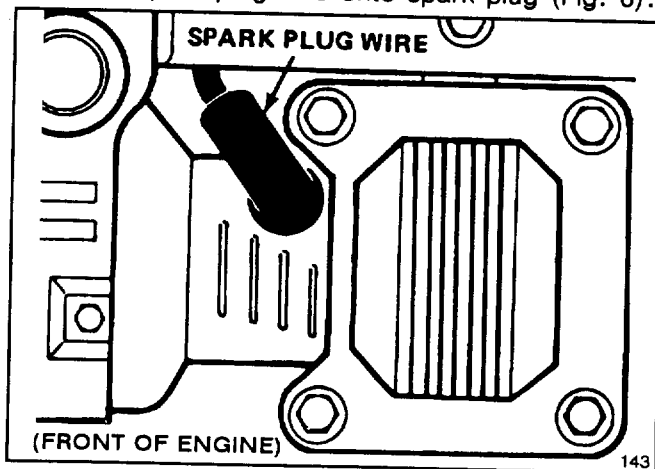

Figure 6
2. Push spark plug wire onto spark plug (Fig. 6).
1. Stop engine and pull wire off spark plug (Fig. 6).
1. Stop engine and wait for engine to cool. Pull wire off spark plug (Fig. 6).
1. Stop engine. Pull wire off spark plug (Fig. 6).